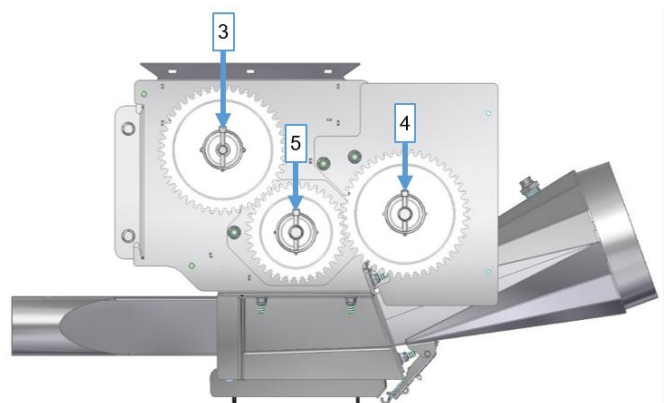

Figure 35
- Turn the double gear wheel for the agitator [3] around so that the large gear wheel (number of teeth = 45) is meshed and the smaller gear wheel (number of teeth = 35) is not meshed (see Figure 35).
- Secure the double gear wheel with the linch pin [3] (see Figure 35).